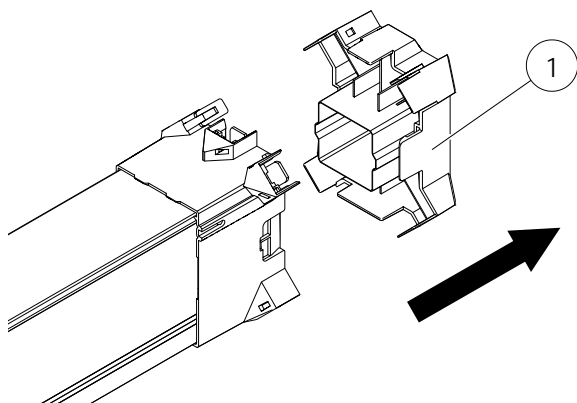

Fig. 120: Slide off end cap (Pos. 1)
- Slide off the end cap (Pos. 1) (see Fig. 120).